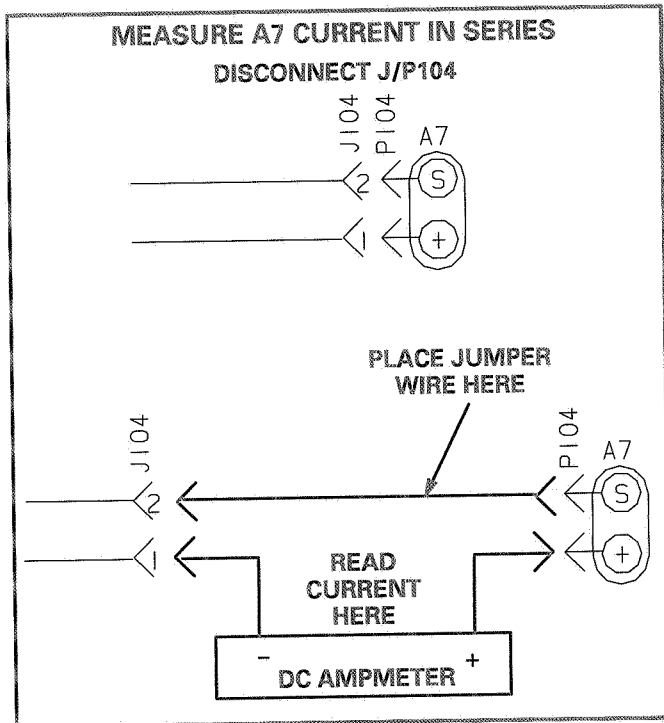

FIGURE 18
- 1- Connect a DC ammeter as shown in figures 18 and/or 19.